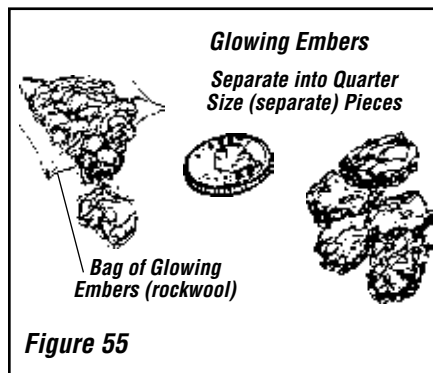
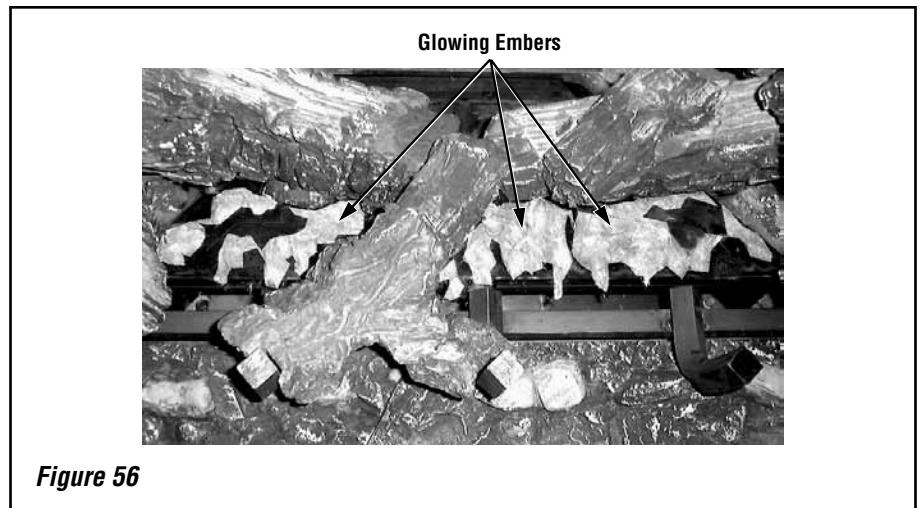

Figure 55
Figure 56
Step 3. Separate the Glowing Ember (Rockwool) into pieces about the size of a quarter (**Figure 55**). Keep the pieces fluffed up, not matted. Distribute these pieces over the front surface of the burner, as shown in **Figure 56**. Do not use more than is necessary. When properly positioned, the Glowing Embers will cover approximately 65% of the front burner and with no appreciable gaps or openings. Ensure that the main burner ports remain uncovered by the ember material.
Position the individual logs as shown below. Logs should be placed in the order shown. Position the center log on the burner first, then place the glowing embers as shown in **Figure 56**. Place the rear log, both the right and left, and then the smaller left and right top logs. All logs that have notches to fit over the grate tines should be positioned with these notches directly against the grate. All top logs that rest on lower logs, do so over flattened mounting faces in the bottom logs.